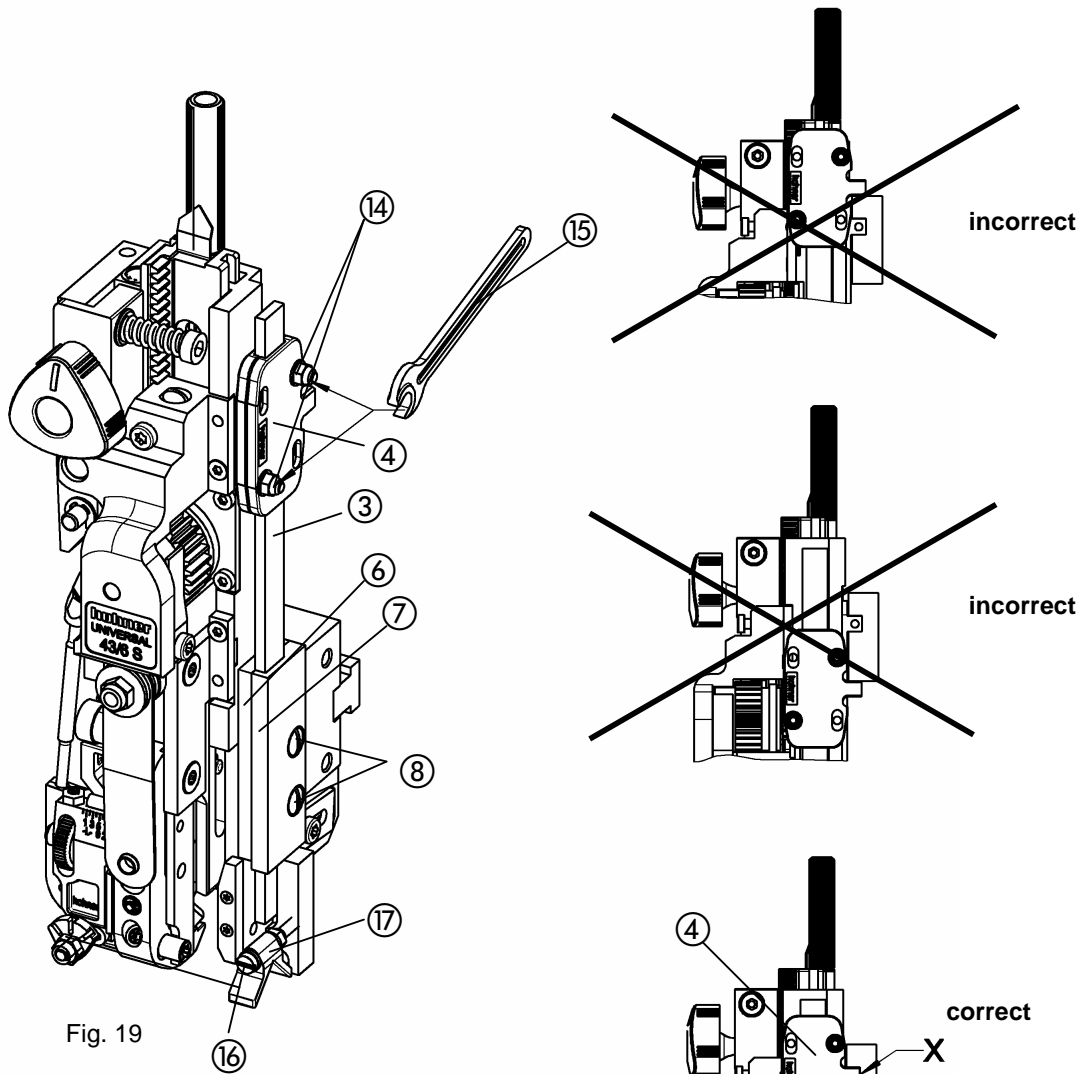

Fig. 19
Fig. 19 a
Fig. 19 b
- Fig. 19 - (see Spare Parts List, page E 31)
- Put centering device rods ③ with carrier ④ between distance plate ⑥ and guide plate ⑦ (plates and rods should be slightly lubricated).
- Screw in screws ⑧ through the plate holes in the thread on the housing and tighten screw; the rods ③ should be parallel with the housing edge.